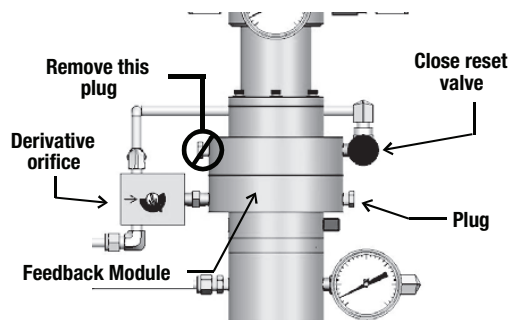

Figure 7 - Proportional Band Test
- A. Remove plug from integral chamber and close reset valve (Figure 7). Tubing between derivative orifice and reset metering valve should stay connected.